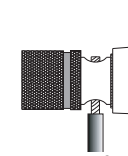

Figure 9
8. Insert the spade lug connector or prepared section of the cable end into the terminal side access hole. Then tighten the terminal cap until the cable is firmly clamped into the terminals so the lugs or wire cannot slip out. Refer to figures 9, 10 and 11.